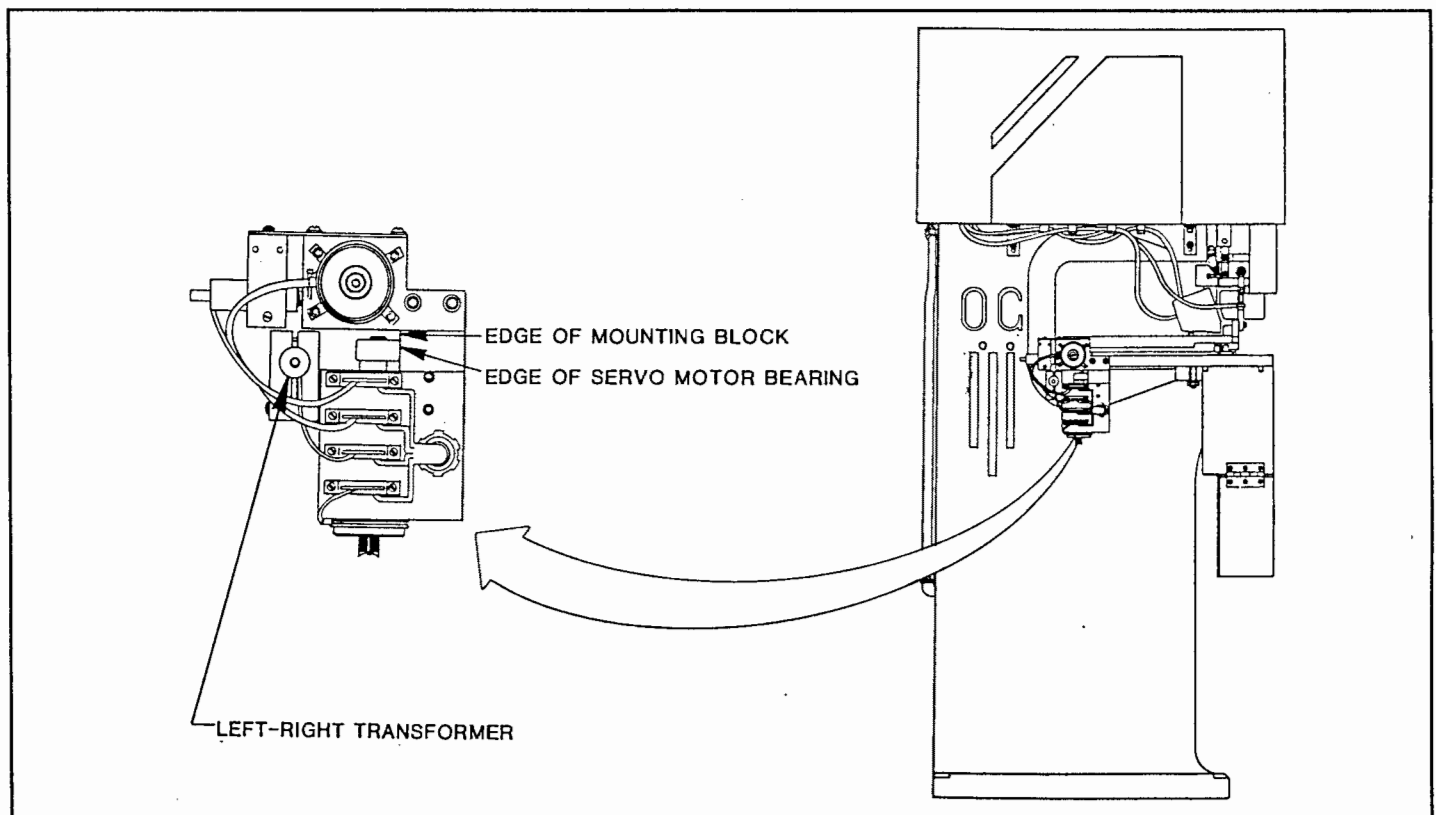

Figure 8.10 F
5. Reattach sponge tape (494) and board retaining bar (493) with board retaining bar screws (491) and lock washers (492).
9. Slide transformer in or out until edge of servo motor bearing lines up with edge of mounting block as shown in Figure 8.10 F. Make sure that you view the bearing and mounting block straight on and not from an angle. When bearing lines up with mounting block, tighten transformer clamp screw (499) with screwdriver.